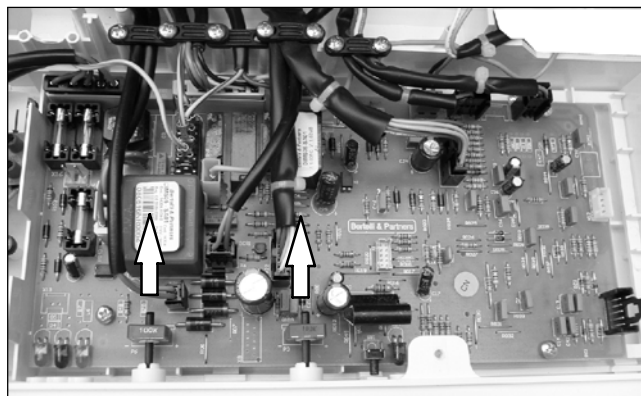

Fig. 9.11
- 3 Remove the spindles of the c.h. and d.h.w. temperature adjustment knobs by delicately pulling them with pliers in the direction shown by the arrow in Fig. 9.11.